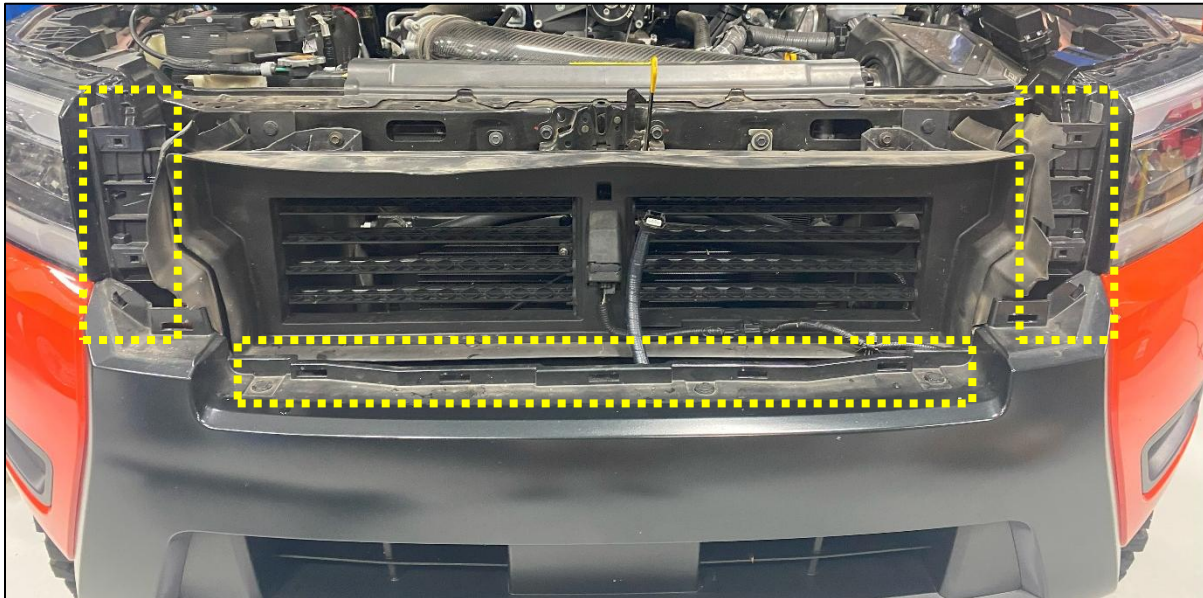

Figure 3
7. Unclip the Front Grille from the vehicle. There are clips on both sides and the bottom of the Grille that must be released. Some vehicles will need to disconnect the Front Camera to fully removed the Grille. *Figure 3.*